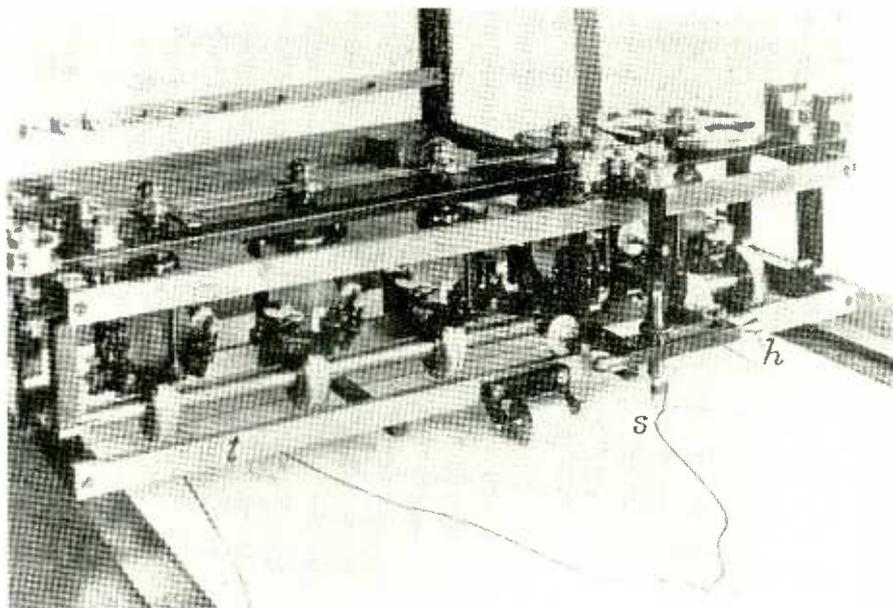

Fig. 2. Mechanical harmonic analyzer. (Courtesy Case Inst. of Technology.)
Back in the early 1900's, digital computers were an unforeseen art. This did not stop the researchers in the harmonic analysis of sound. Instead they built analog computers. Many accurate machines of this type and of great accuracy were built. Figure 2 shows a five-coefficient harmonic analyzer and Fig. 3 shows the details of a rolling-sphere integrator. Figure 4(A) shows an oscillogram of an organ pipe sound and Fig. 4(B) shows its harmonic content when analyzed by a mechanical harmonic analyzer. Figure 5 shows the recheck when the function is recomputed from the coefficients, frequencies, and phase shifts given by the analyzer.